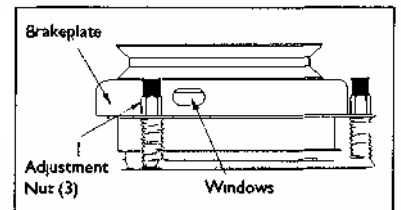

figure2
4. Locate the three holes in the brakeplate, one near each adjustment nut (figure 2).